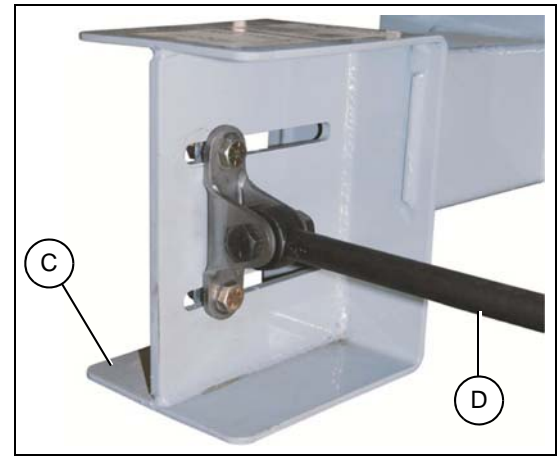

Figure 6U
When a drive package is ordered with the conveyor system, a torque arm bracket (C) is provided. \(See Figure 6U on Page 27.\)